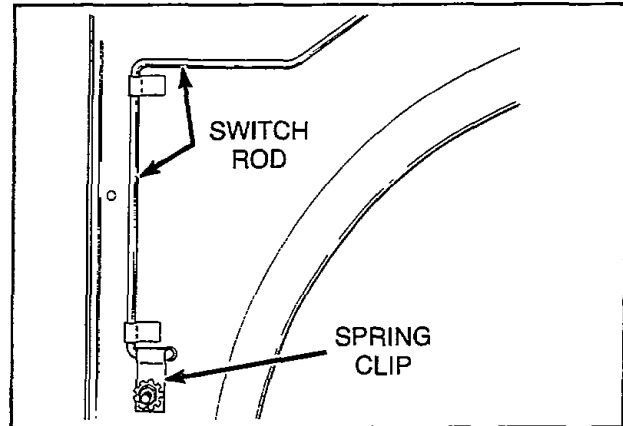

Figure 19
**15. DOOR SWITCH ROD** (Refer to Figure 19)